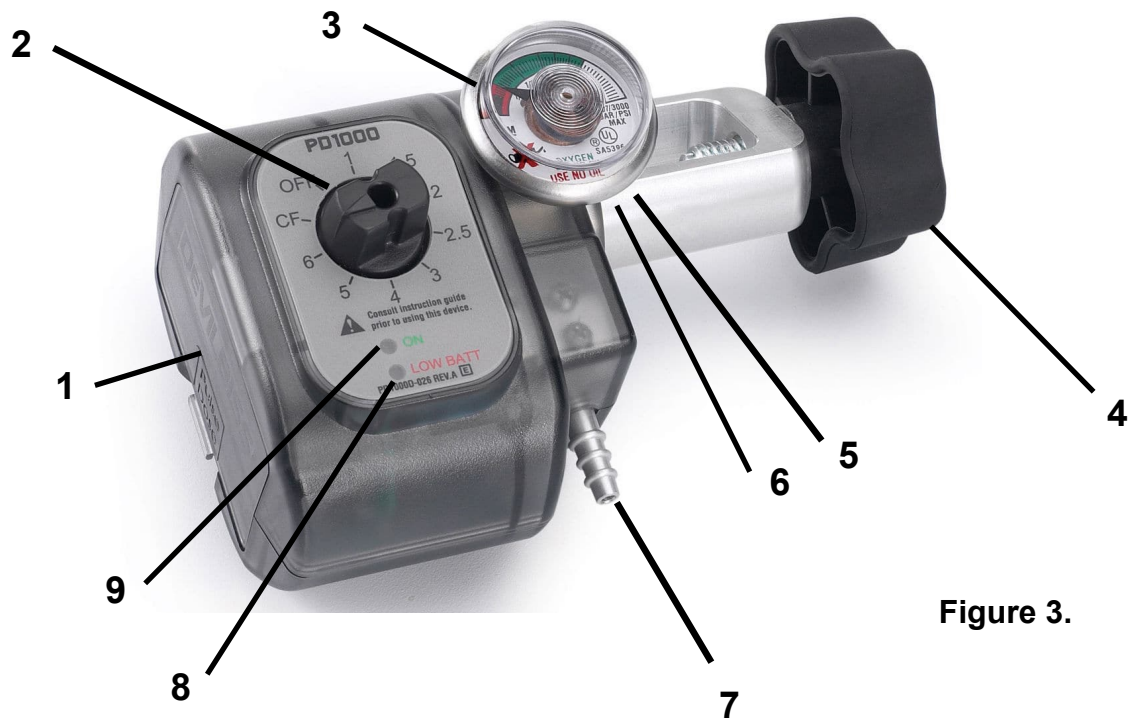
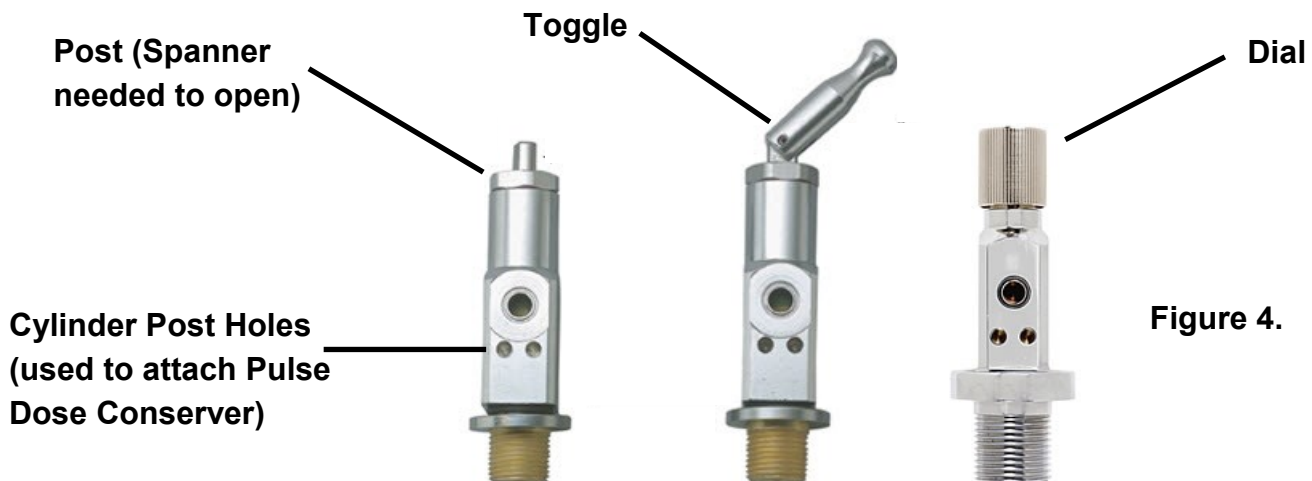

Figure 3.
Figure 4.
1. Attach the PulseDose Conserver to the oxygen cylinder by matching the two pins (Pg 10, Fig 3, #6) on the PulseDose to the two holes on the cylinder post (Pg 10, Fig 4) and tighten using the black tightening handle (Pg 10, Fig 3, #4).
2. Open the cylinder valve by turning the post, toggle or dial (Pg 10, Fig 4) at the top of the cylinder 1/2 a turn anti-clockwise.
**NOTE:** At each cylinder change, locate the **WASHER** (Pg 10, Fig 3, #5), where the PulseDose attaches to the cylinder, and turn the washer over. This will promote even wear of the washer, and prevent it bending or cracking.
3. Set the PulseDose to the prescribed flow rate (e.g. 2 LPM) using the flow rate dial (Pg 10, Fig 3, #2).
4. Attach the nasal prongs to the PulseDose oxygen outlet (Pg 10, Fig 3, #7) and insert the nasal prongs into the nose. Breathe normally through the nose, the PulseDose will deliver a spurt of oxygen at the beginning of the intake breath. The **Green ON indicator** (Pg 10, Fig 3, #9) will flash at each breath only.
5. When you are finished using the portable oxygen, please ensure you **CLOSE THE CYLINDER** by turning the post, toggle or dial (Pg 10, Fig 4) at the top of the cylinder in a clockwise direction, and returning the PulseDose Conserver flow rate dial (Pg 10, Fig 3, #2) to the 'OFF' position.
**ATTENTION:** Should the low battery light (Pg 10, Fig 3, #8) continuously flash **red** you have 4-8 hours to change the batteries.
Is the cylinder open?	1. Make sure to open the cylinder before use by turning the post, toggle or dial (Pg 10, Fig 4) at the top of the cylinder anti-clockwise 1/2 a turn.
Breathe through the Nasal Prongs	1. Oxygen will not be released until you breathe through the nasal prongs. 2. If there is still no oxygen being released, have a family member or friend breathe through the nasal prongs as your breath may not be strong enough. 3. The flow rate dial (Pg 10, Fig 3, #2) can also be turned to 'CF' (continuous flow) to test if oxygen is being released.
Replace batteries	1. Try to replace the batteries in the PulseDose Conserver (see Pg 10, Fig 3, #1 for battery compartment location). 2. Make sure to use high strength, good quality alkaline batteries.
Is there oxygen in this cylinder?	1. Open the cylinder (with PulseDose Conserver attached) by turning the post, toggle or dial at the top of the cylinder anti-clockwise 1/2 a turn. 2. Once the cylinder is open, check the contents gauge (Pg 10, Fig 3, #3) to see how much oxygen remains in the cylinder. If the needle is in the green area there is oxygen in the cylinder. If the needle is in the red area, there is little or no oxygen in the cylinder. 3. Head to your nearest Drive DeVilbiss Healthcare Accredited Cylinder Depot to exchange the cylinder for a full one.
Ensure the device is properly attached	1. To check this, make sure the cylinder is closed (turn the post, toggle or dial at the top of the cylinder clockwise until closed) unscrew the conserver from the bottle using the black tightening handle (Pg 10, Fig 3, #4) . 2. Reattach the PulseDose Conserver to the cylinder and try to operate again (see page 11 for operating instructions).
Check Washer	1. Close the cylinder by turning the post, toggle or dial at the top of the cylinder clockwise. 2. Remove the PulseDose Conserver from the cylinder by unscrewing the tightening handle (Pg 10, Fig 3, #4). 3. Inspect the washer (Pg 10, Fig 3, #5), if it is cracked or bent then replace the washer.